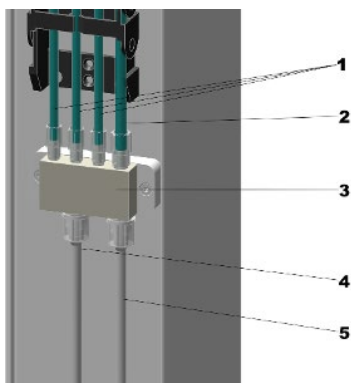

Figure 13: Tubing connection at distributor
3. Plug the three 65.5 cm rinsing tubings (number 1 in Figure 13) in the M6 holes of the distributor (number 3 in Figure 13). On the other end of these rinsing tubes, tighten the spray nozzles (6.2740.020). They will be placed into their respective holes later on during the installation.
4. The remaining M8 hole of the distributor serves to connect the aspiration tubing (number 2 in Figure 13). On the other side of the tubing, the appropriate aspiration tip is connected. This tip will also be placed in its correct hole later on during this installation.
5. Make sure to connect the 60 cm PTFE tubing with Luer 60 (number 4 in Figure 13) to the rinsing pump outlet (pump 1 or pump 3). The 80 cm PTFE tubing with Luer (number 5 in Figure 13) leads to the aspiration pump inlet (pump 2 or pump 4).